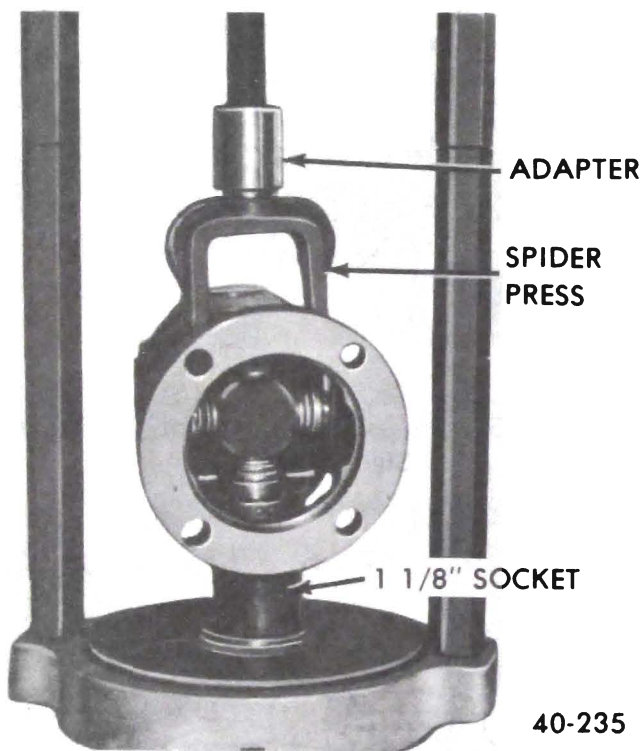

Figure 40-64 Disassembling Rear Double Cardan U-Joint
3. Support the propeller shaft horizontally in line with the base plate of a press. Place the rear ear of the coupling yoke over a 1 1/8" socket. Place the spider press (J-9522-3) on the bearing cups in the flange yoke. See Figure 40-64.